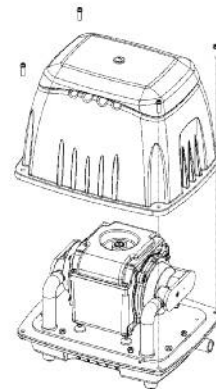

Figure 2
- A. Loosen the four screws around the aluminum upper housing, and take the housing off. (As shown in figure 2)